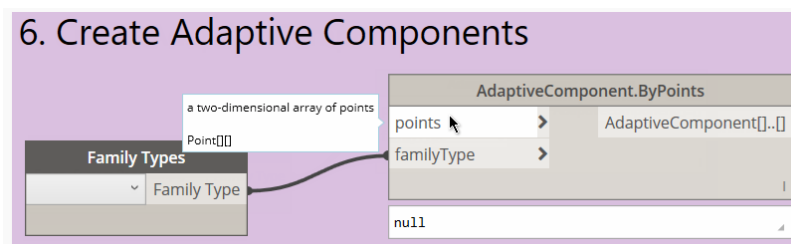

Figure 93
8. Select both nodes and group them. Name the group: **6. Create Adaptive Components** (see Figure 93).